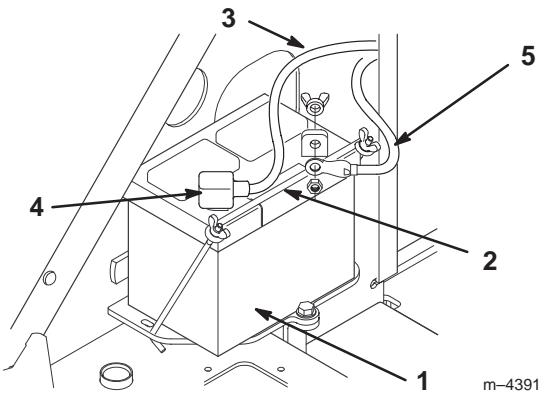

Figure 2
2. Remove the wing nuts and bar securing the battery (Fig. 2).
8. Install the battery into the chassis (Fig. 2).
9. Secure the battery in chassis with the bar and wing nuts removed previously (Fig. 2).
10. Using the bolt and wing nut supplied with the battery, connect the positive (red) cable to the positive (+) battery post (Fig. 2). Slide the rubber cover over the battery post.
11. Using the bolt and wing nut supplied with the battery, connect the negative (black) cable to the negative (–) battery post (Fig. 2).